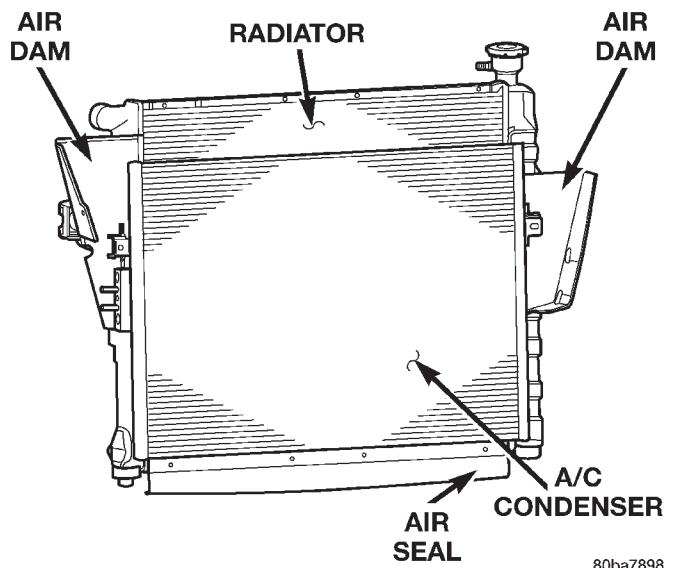

Fig. 32 Fan Shroud Nuts
(4) If water pump is being replaced, do not unbolt fan blade assembly from thermal viscous fan drive.
(5) Remove two fan shroud-to-radiator nuts (Fig. 32). Do not attempt to remove fan shroud at this time.
(7) Be sure the upper and lower portions of the fan shroud are firmly connected. All air must flow through the radiator.
(8) Install two fan shroud-to-radiator nuts (Fig. 32).
(9) Be sure of at least 25 mm (1.0 inches) between tips of fan blades and fan shroud.
(10) Install fan blade/viscous fan drive assembly to water pump shaft.